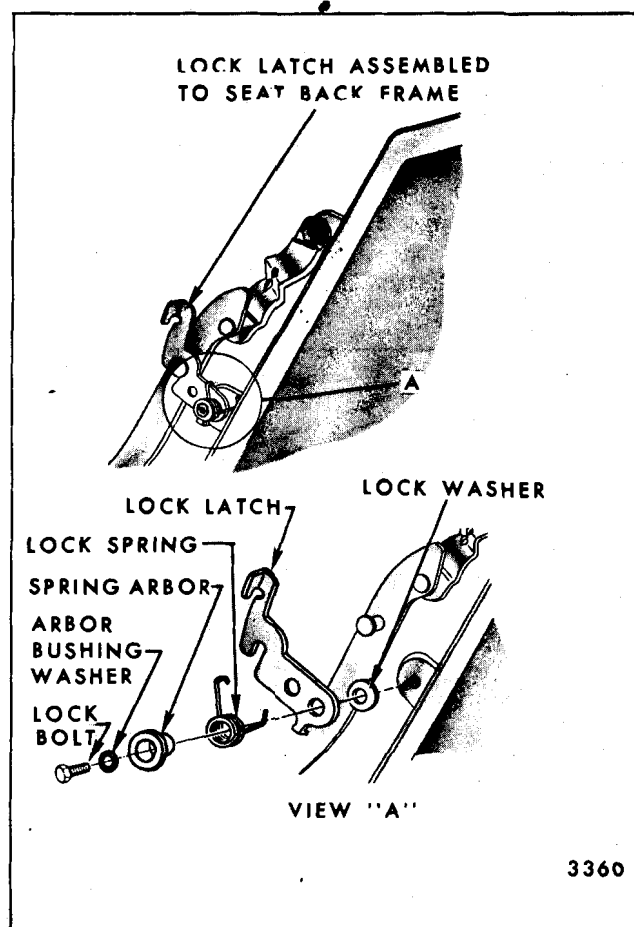

Fig. 14-68-Third Seat Back Lock - "A" Body Two-Seat and Three-Seat Station Wagons
2. Remove shoulder bolt securing lock latch and spring to seat back frame and remove latch, spring and washer (Fig. 14-68).